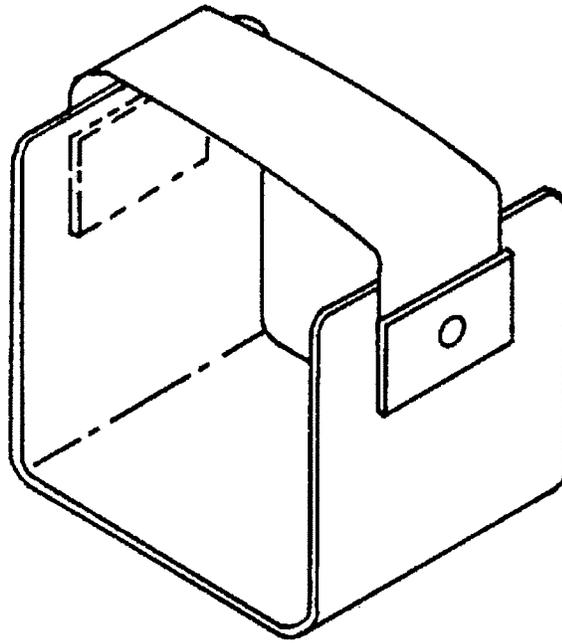

Figure 5-17. Headlamp Bracket
q. The headlamp bracket (Figure 5-17) is used to hold the headlamp and battery pack of the assembly.